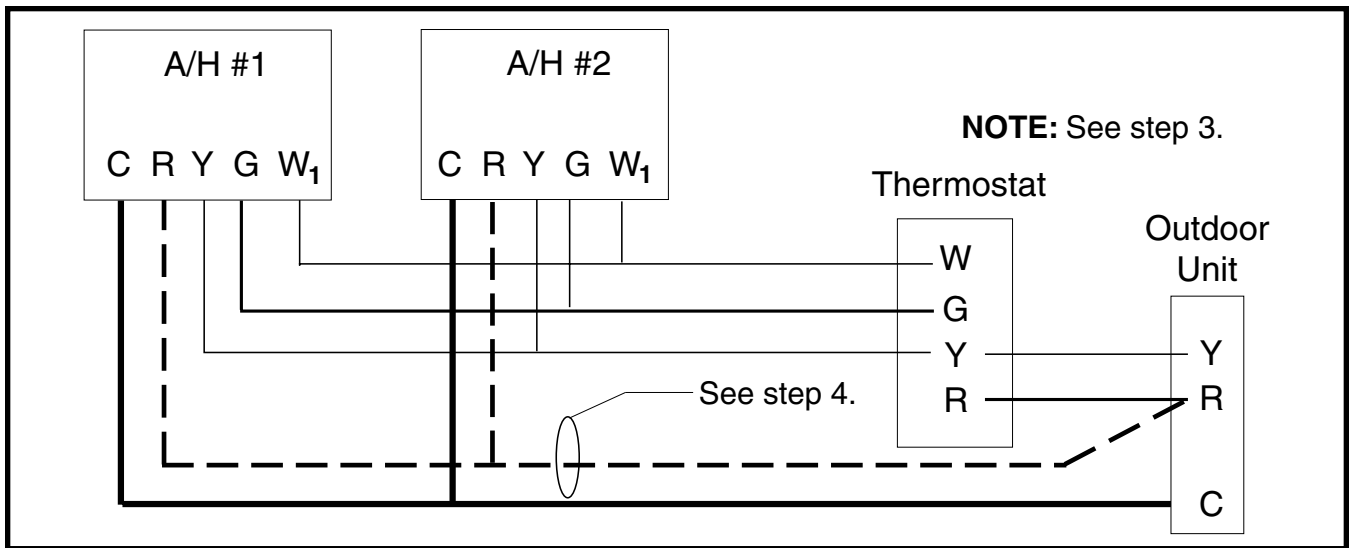

Figure 1. Low Voltage Wiring
2. Low voltage wiring should be connected as shown in Figure 1.
4. For B5 & B6 air handlers (2 - 5 ton models) equipped with a printed circuit board control, 24V (R) must be connected to both indoor units.